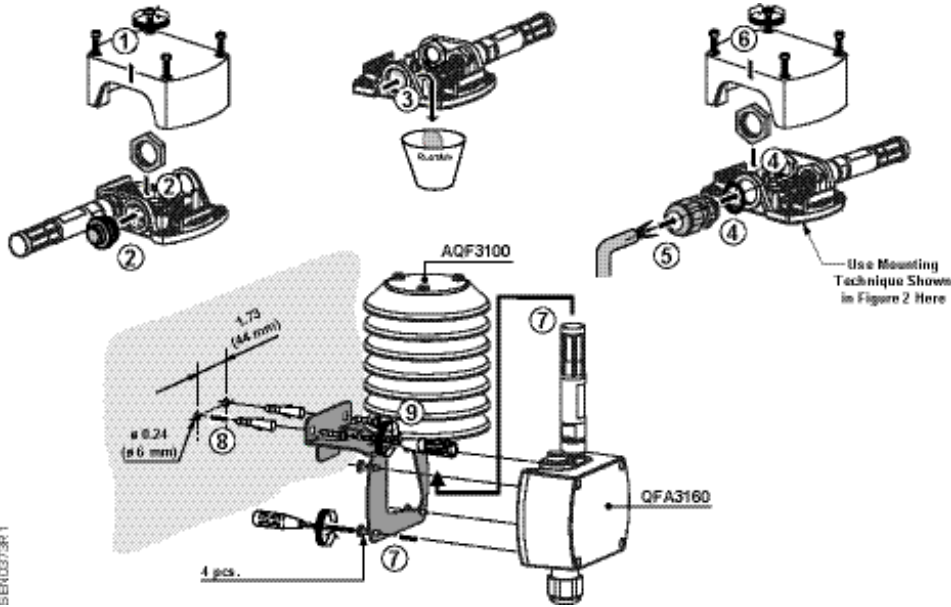

Figure 1. Rh/T Outdoor Air Sensor Installation.
1. Determine where the sensor is to be located and install the Sun Shield, AQF3100, as shown in Figure 1. The installation surface determines which mounting components are to be used.
**NOTE:** The shield must be mounted vertically as shown in Figure 1.
2. Remove sensor cover and install plug in knockout next to sensing probe. See Figure 1 (2).
5. Install the sensor onto the Shield as shown. See Figure 1 (7).